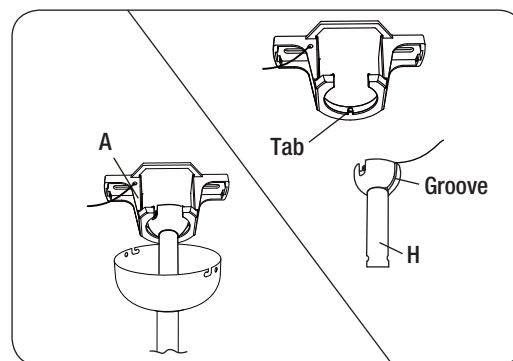

Figure 10
- Before making the electrical connections, carefully lift the fan assembly up to the mounting bracket (A). Seat the hanger ball in the mounting bracket socket. Make sure the tab on the mounting bracket socket is properly seated in the groove in the hanger ball (Figure 10).